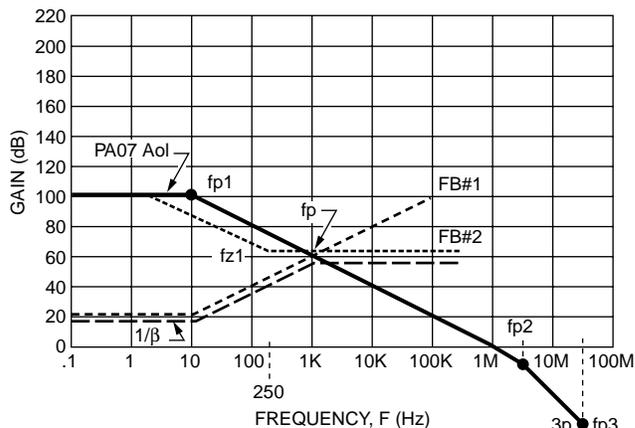
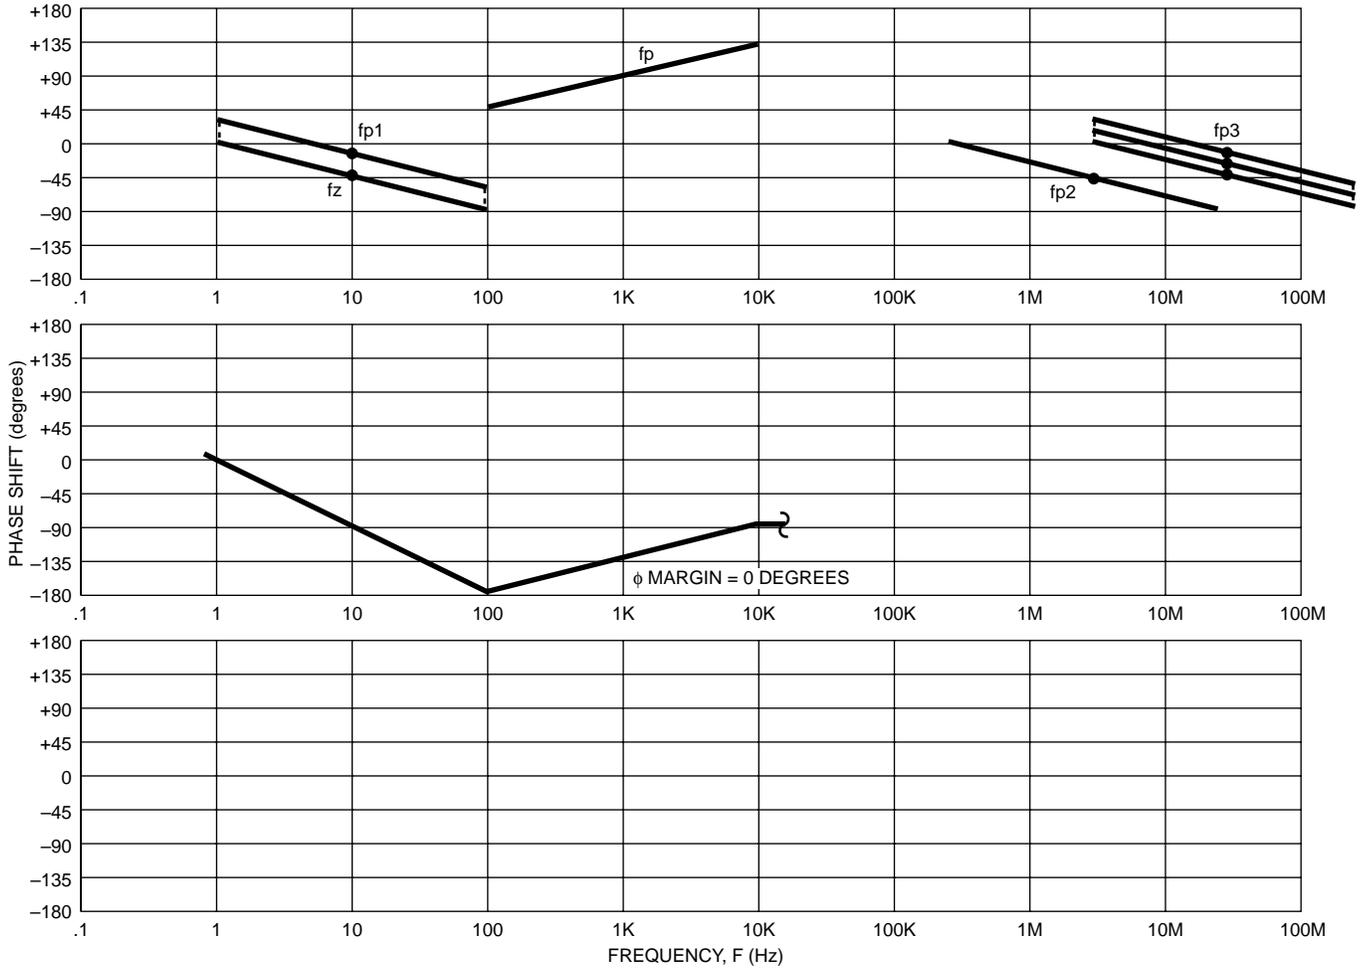

FIGURE 19. FIRST GUESS MAGNITUDE PLOT FOR STABILITY
FIGURE 20. FIRST GUESS OPEN LOOP PHASE PLOT FOR STABILITY
STEP 3: Refer to Figure 19 which repeats PA07 Aol and FB#1. We will add FB #2 to force the high frequency part of the $1/\beta$ curve to flatten out and intersect the PA07 Aol curve at 20 dB per decade. FB #2 will dominate at frequencies above 1 KHz. Although our V-I circuit has two feedback paths, the op amp will follow whichever feedback path is dominant. This means the larger β is, the more voltage is fed back from the output to the -input as negative feedback (Remember $\beta = V_{fb}/V_{OUT}$). With a larger β , $1/\beta$ will become smaller; therefore, the dominant feedback path out of FB#1 and FB#2 will be the lowest gain path.
STEP 4: In Figure 19 the long-dashed line represents the $1/\beta$ feedback path that the PA07 operates in for small signal AC. According to our first order check for stability we see a 20 dB per decade rate of closure indicating a stable design. But let's do our complete stability check by using the $1/\beta$ curve
Figure 20 is the resultant open loop phase plot using the information from Figure 19. After plotting individual open loop poles and zeroes, and drawing the appropriate slopes, we graphically add the slopes to yield a resultant open loop phase as shown in Figure 20. Notice fp_3 in Figure 20 is a triple pole. It is easier to plot this as shown in Figure 20 as three poles "on top" of each other. This makes it easier to add graphically for a resultant open loop phase plot. As shown in Figure 20, our open loop phase dips to -180 at 100Hz. Our first attempt at compensation was not successful since we desire at least 45 degrees of phase margin (open loop phase should not dip to less than -135 degrees).